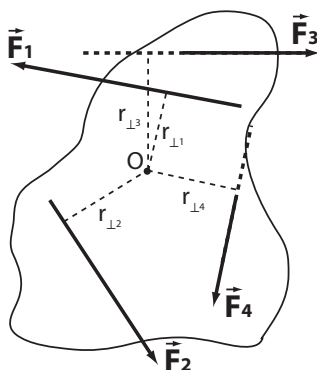

Figure 1: Torques about the point 'O'
The forces acting on a planar body are shown in Figure 1. An arbitrary point 'O' about which to sum the torques has been chosen and the *lever arms* (perpendicular distances from the lines of action of each of the forces to the chosen point) have been drawn. In this example,  $\vec{F}_1$  and  $\vec{F}_2$  will tend to rotate the body in a counter-clockwise (positive) direction about point O while  $\vec{F}_3$  and  $\vec{F}_4$  will tend to rotate the body in a clockwise (negative) direction. The second condition for equilibrium will be satisfied if the algebraic sum of the four torques is zero. For the above example
8. **Choose & label a pivot point ‘O’** that is **INSIDE** the outline of your plate about which to sum the torques. Any point *should* work BUT to reduce error **DO NOT CHOOSE** the centre of gravity (CG) or a point which lies within 1 cm of the line of action of ANY of the forces.
9. Using a sharp pencil, a ruler, and a triangle, **draw perpendiculars** from the (extended) lines of action of the forces to the point ‘O’. Label the perpendicular distances from each of the force lines to the point ‘O’ as  $r_{\perp i}$  (as shown in Figure 1). **PROPERLY measure these distances (in cm) and record your  $r_{\perp i}$  values (in m) in the table.** Show ONE sample calculation below the table.